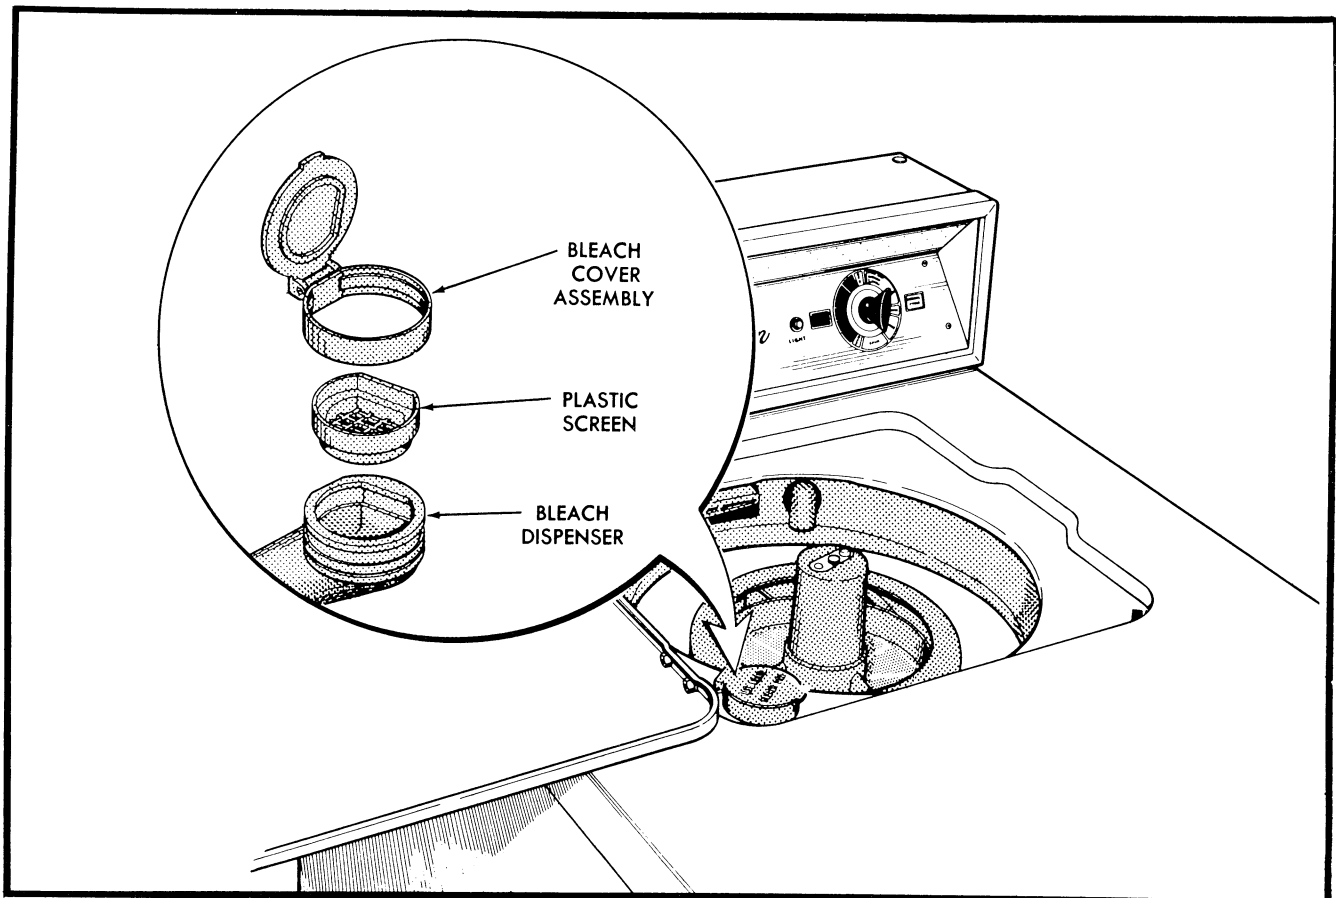

Figure 8—Bleach Dispenser
If the washer has a bleach dispenser as shown in *Figure 8*, the dispenser must be removed before raising the cabinet top. To remove the bleach dispenser, carefully lift the bleach cover assembly off of the bleach tube. Remove the plastic screen from the bleach dispenser, compress the bleach tube and push it down through the cabinet top.
4. On Shur-Fil models the pressure hose should be removed from the pressure switch, *Figure 8*.